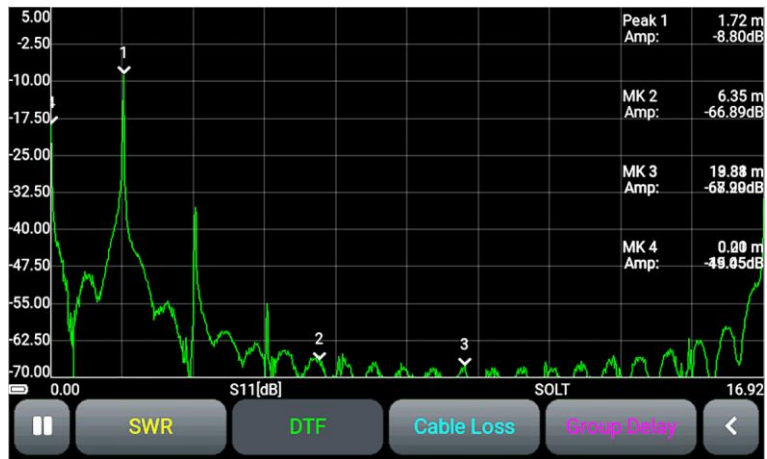

Figure 10.12 - Plot of distance measurement to cable fault
10.7.1. **DTF – distance to fault** – distance to damage. This plot (Figure 10.12) allows you to measure the distance to fault or heterogeneity of the cable in the communication lines. Calculated as the inverse Fourier transform of the frequency array of reflection coefficients.